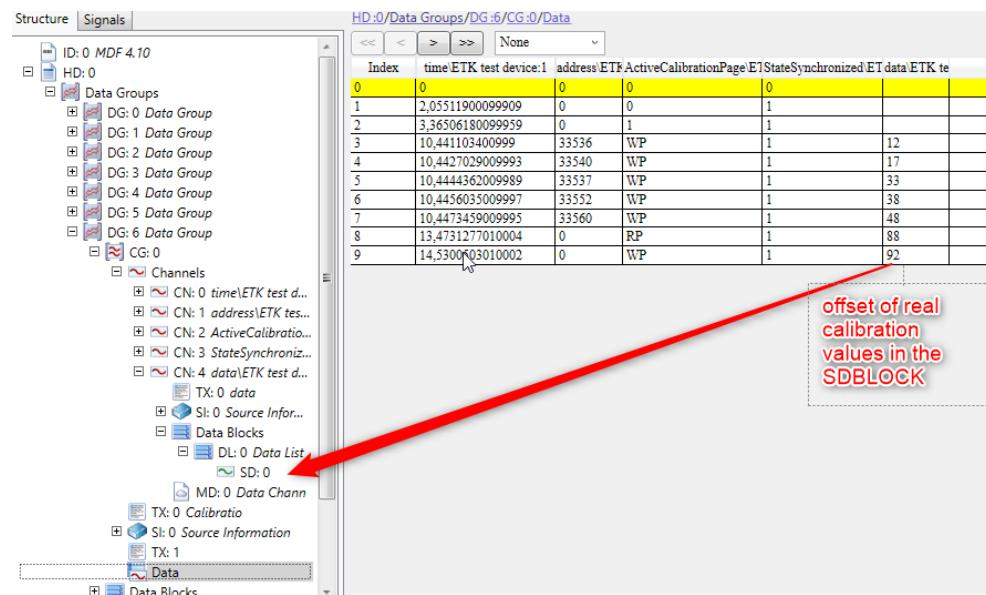

Fig. 11 Calibration event and offset of data
- For Data INCA uses a CNBLOCK with variable length (VLSD). This means that Data contains the offset to the real calibration value arrays in the related SDBLOCK. (See Fig. 11)